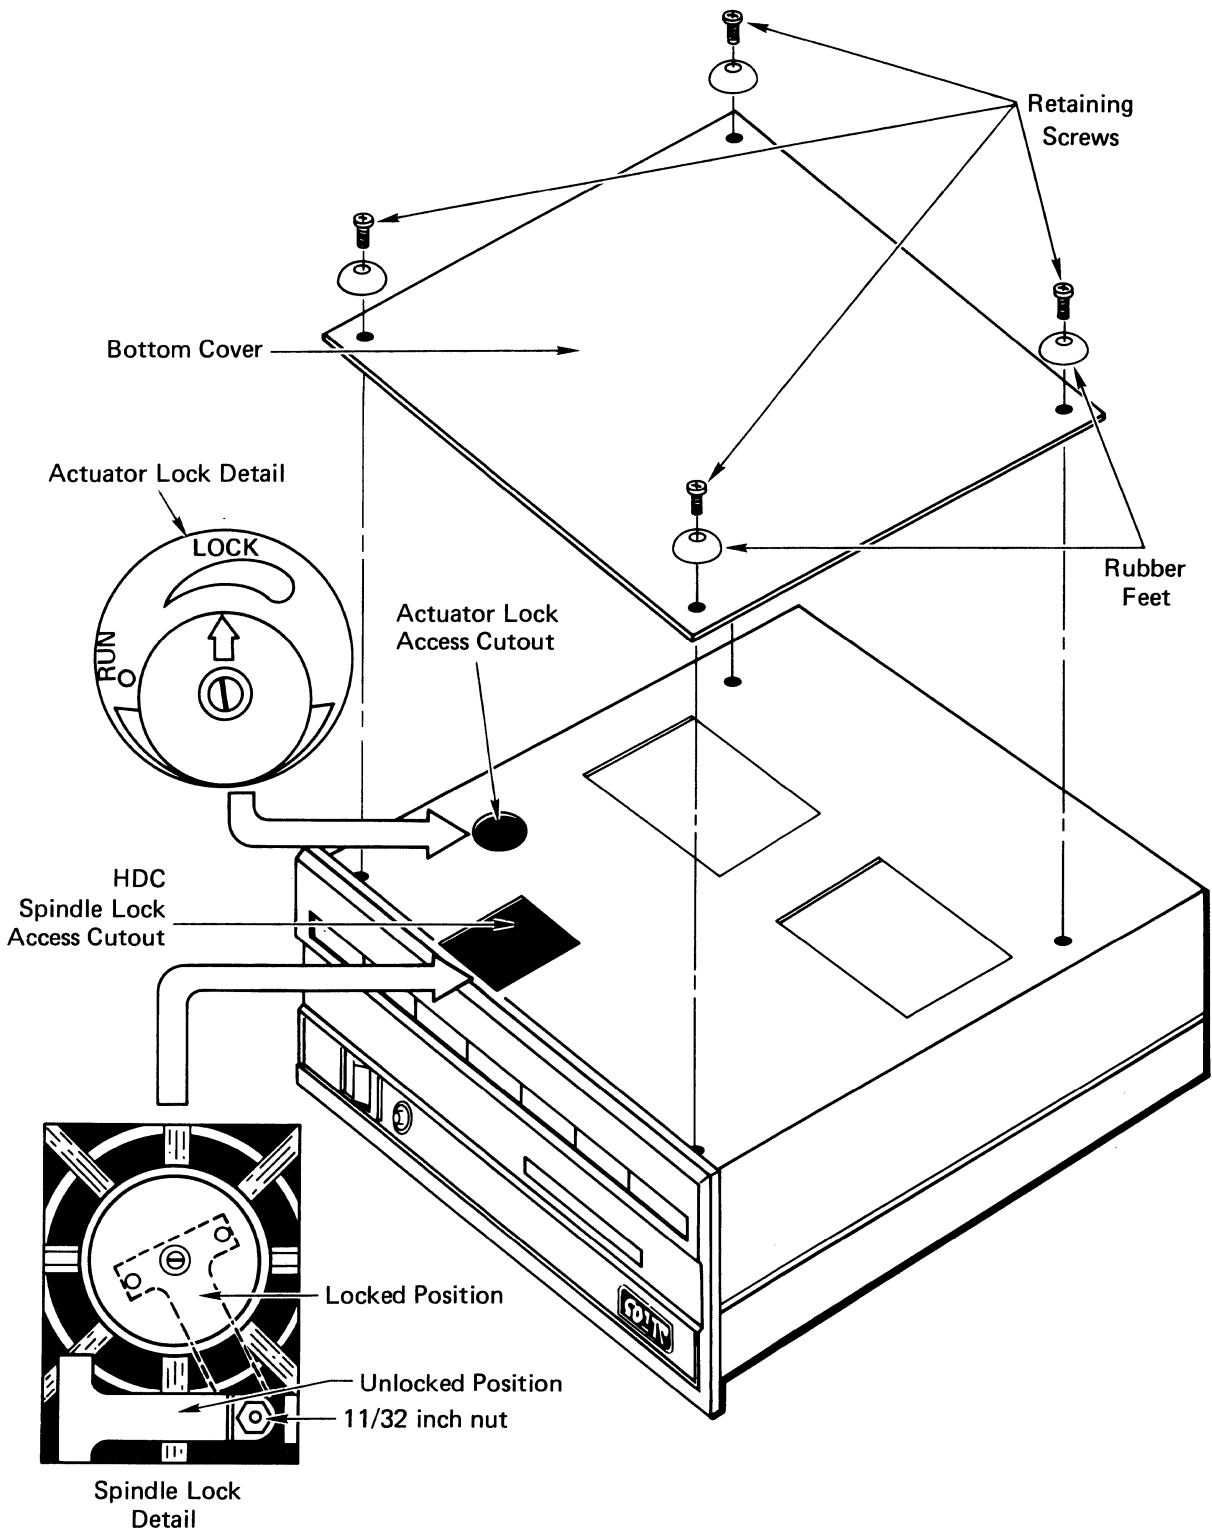

Figure 2-3. Hard Disk Drive Actuator and Spindle Locks
4. Locate the disk drive spindle lock access cut-out (Figure 2-3). Use an 11/32-inch hex nut driver or socket to loosen the spindle locking clip nut. Rotate the locking clip away from the pulley, into the unlocked position. **DO NOT ROTATE THE PULLEY.** Tighten the 11/32-inch nut. **DO NOT OVER-TIGHTEN.**
5. Locate the actuator lock access cutout (Figure 2-3). Use a flat blade screwdriver to rotate the actuator lock 1/4 turn anti-clockwise from the **LOCK** position to the **RUN** position.